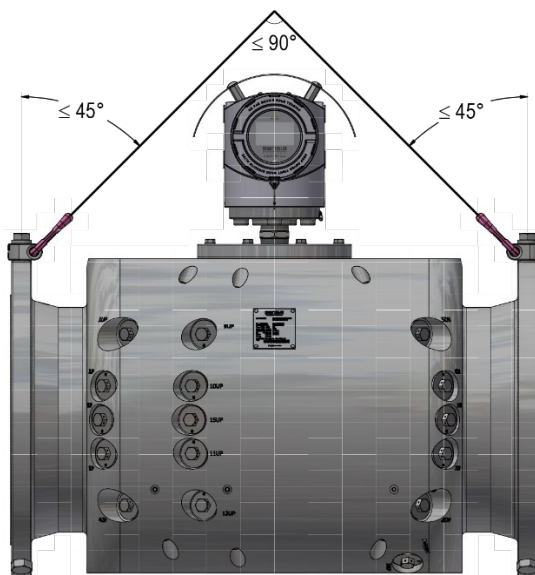

Figure 2.2—Proper sling attachment
3. Attach the slings to the hoist rings (see Figure 2.2).